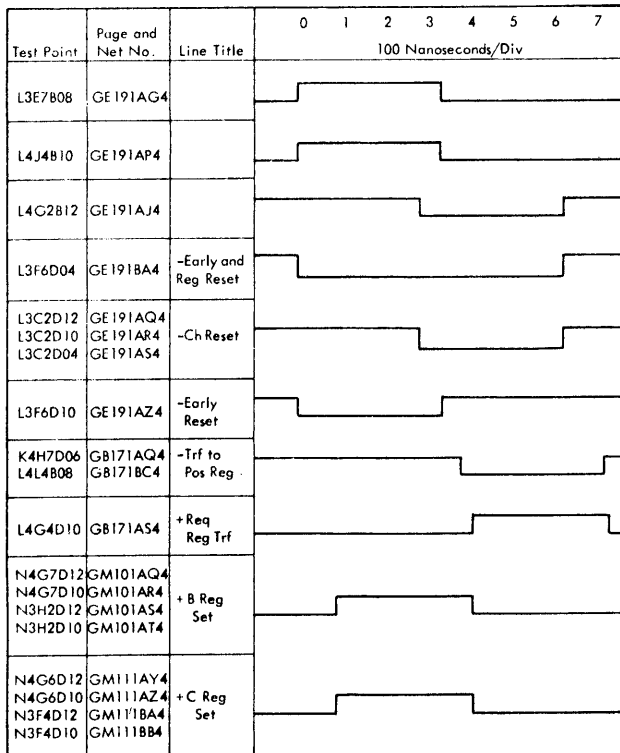

FIGURE 101. RESET PULSES (CLOCK RUNNING)
4. If clocks are running, use Figure 101 for reference.